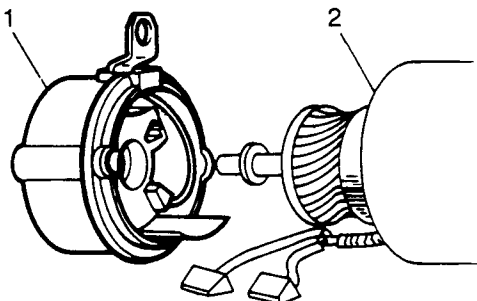

Fig O6.20
- (1) Refer to Fig O6.20. Hold the commutator end cover (1) close to the yoke (2) and fit the brushes into their correct housings in the brush box moulding.
- (2) Fit the commutator end cover to the yoke and align the holes for the through bolts.